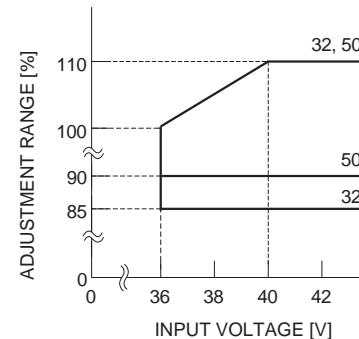

Fig. 4.7 Output voltage adjustment range
- When the input voltage is 36 - 40VDC, the output voltage adjustment range becomes as shown in fig. 4.7.